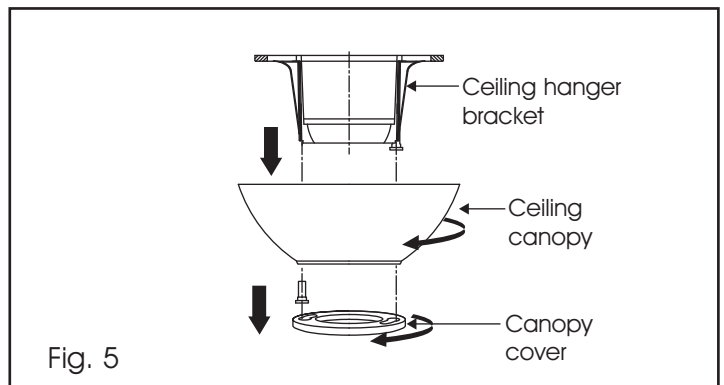

Fig. 5
**Step 1.** Remove the decorative canopy bottom cover from the canopy by turning the cover counter clockwise. (Fig. 5)
**Step 2.** Remove the hanger bracket from the canopy by removing the 1 of 2 screws from the bottom of the hanger bracket and loosening the other one a half turn from the screw head. Next, turn the canopy counter clockwise to removing the hanger bracket from the canopy. (Fig. 5)